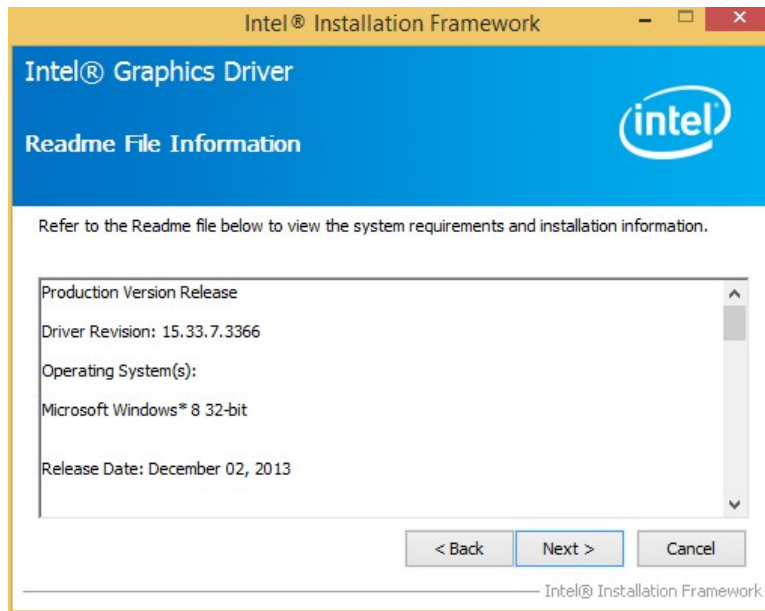

Figure 6-10: Graphics Driver Read Me File
Step 8: The Read Me file in Figure 6-10 appears. Click **Next** to continue.